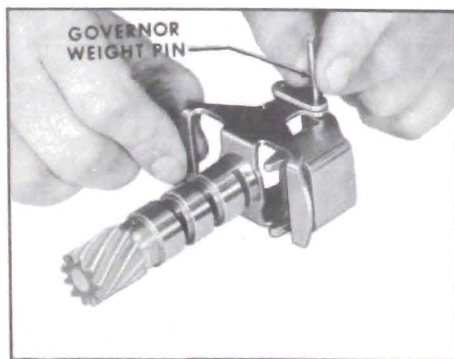

Figure 5-242
2. Remove governor weight pins. See Figure 5-242.